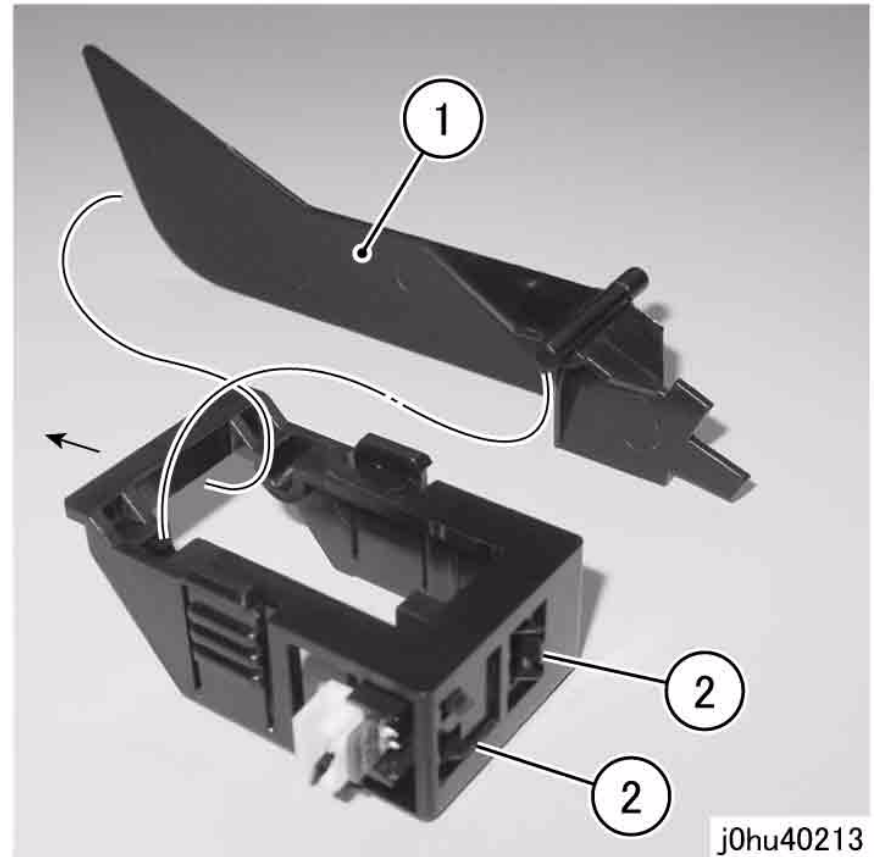

Figure 2 Remove Tray 1 No Paper Sensor
4. Remove the Tray 1 No Paper Sensor (Figure 2).